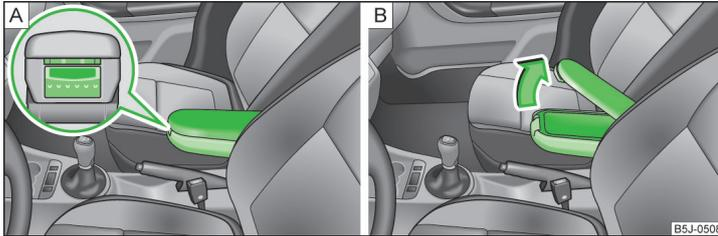

Fig. 90 Armrest: Storage compartment/open storage compartment
- Press the lower button on the end of the armrest » Fig. 90 - A.
- Press the upper button and open the cover of the stowage compartment upwards » Fig. 90 - B.